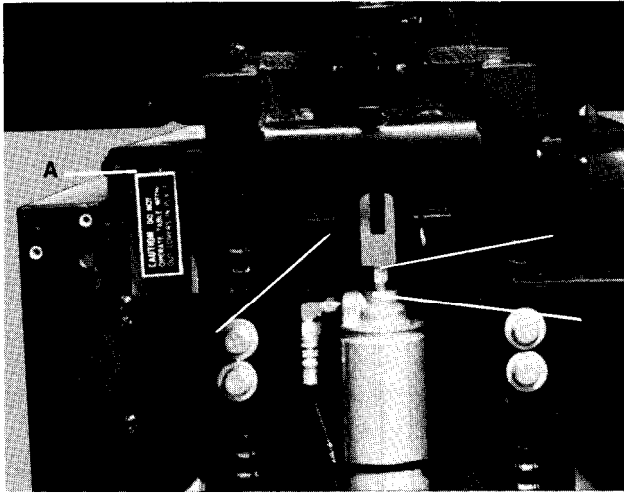

Fig. 31
DANGER: WHEN REMOVING THE CLEVIS PINS FROM THE BASE CYLINDER, THE TWO ASSISTANTS MUST SUPPORT THE TABLE TOP. KEEP HANDS AWAY FROM THE TOP OF THE SLIDES, POINT A, FIG. 31, AND FROM BENEATH THE BASE SLIDING MEMBER. AFTER REMOVING THE CYLINDER, STAND CLEAR OF THE TABLE AS THE TWO ASSISTANTS LOWER THE TABLE TOP. FAILURE TO DO THIS COULD RESULT IN SERIOUS PERSONAL INJURY.
- 7) Connect the (3) hose fittings tightly to the new cylinder.
- 8) Have the two assistants lift on the table top enabling the clevis pin, Item B, Fig. 31, to be installed along with the cotter pin.
- 12) Fully retract the base cylinder and adjust for a 1/16" to 1/8" gap "A", Fig. 31, above the slides. To adjust for this gap, the clevis (rod end) must be adjusted in or out accordingly. To adjust the clevis, turn the cylinder rod using a 3/8" open end wrench on the wrenching flats, Item D, Fig. 31. The rod will turn easiest when it is extended about half of its total extension.